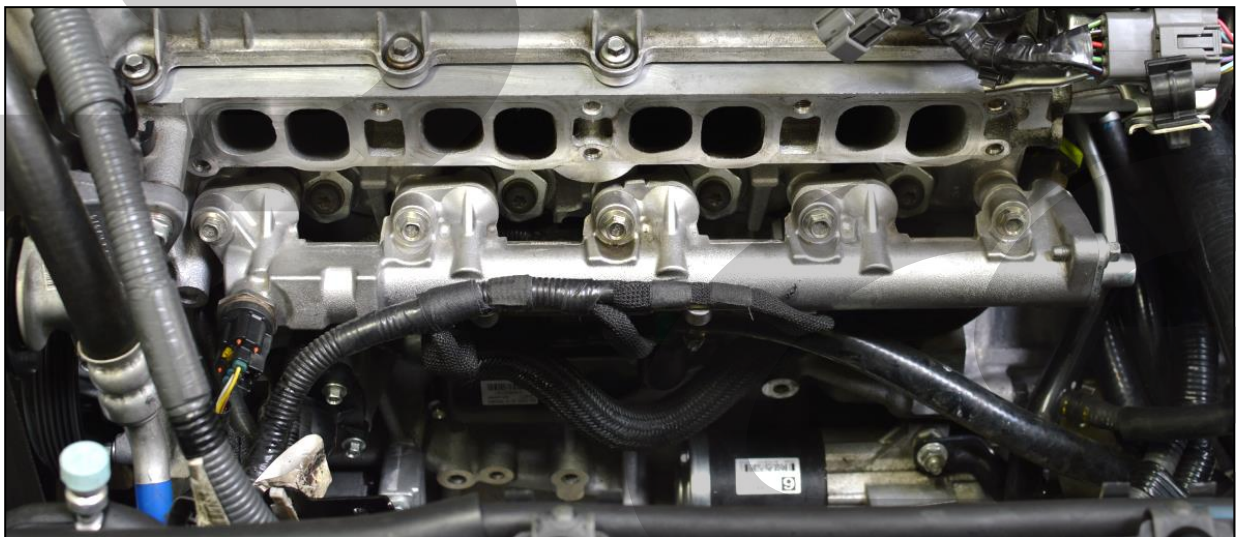

Figure 5d
- b) Engine bay should look like **Figure 5d**.